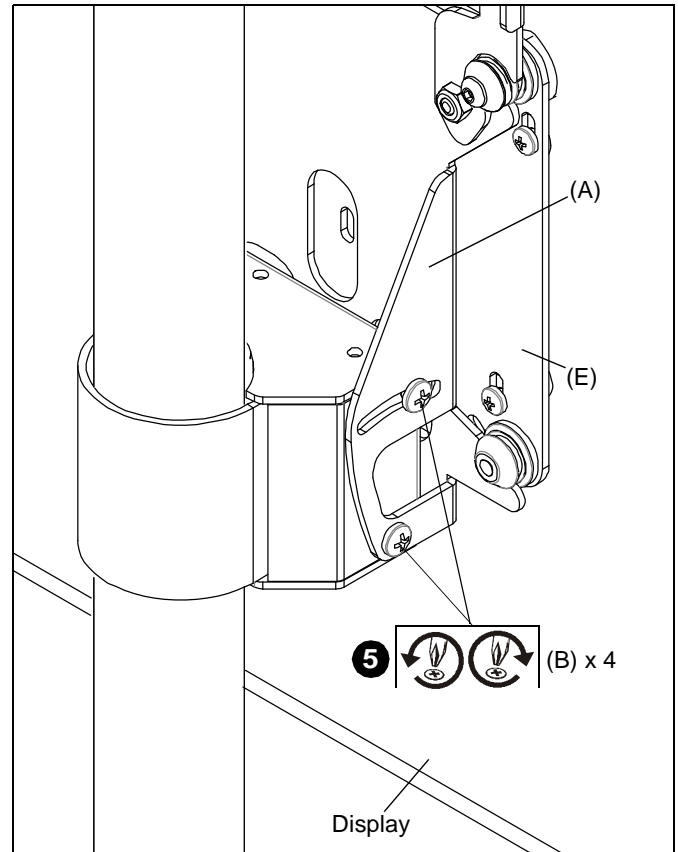

Figure 9
5. Adjust tilt by loosening (slightly) tilt adjustment screws on each side of FSP (A), adjust to desired angle, and tighten tilt adjustment screws. (See Figure 9)